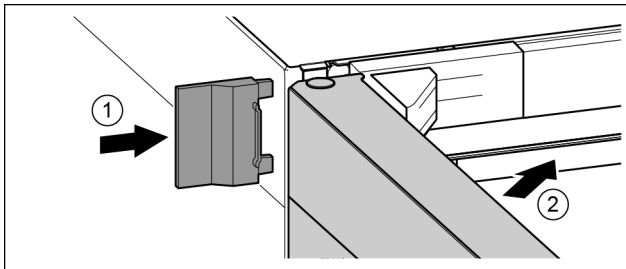

Fig. 26
- ▶ Slide on the external cover. Fig. 26 (1)
- ▶ Close the upper door. Fig. 26 (2)